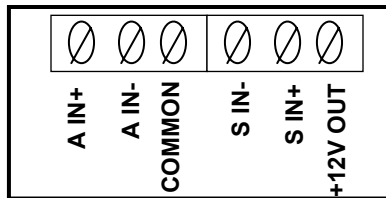

Figure 16
6. Insert the sensor's DC common (or negative) output wire into the **S IN-** terminal block and secure the wire by turning the terminal's screw clockwise. (*Refer to the MX001 box or to Figure 16 for the order of the terminals for the sensor wires.*)